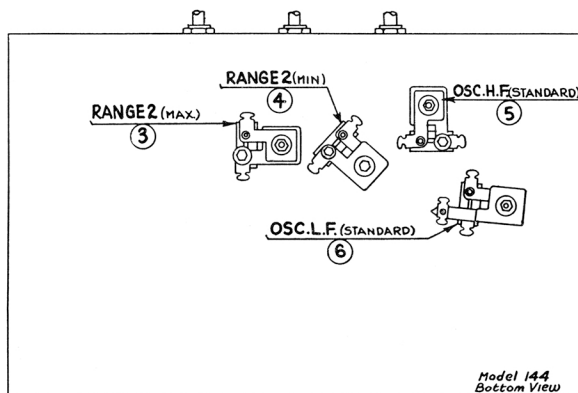

Fig. 26
Turn the Wave-Band Switch to Range 2, and adjust the Station Selector to 3.6 M.C. The "Antenna" connection between the Signal Generator and the receiver chassis must be removed for this adjustment, otherwise the output of the Signal Generator will be too great. Adjust the compensating condenser ③ to give maximum response in the output meter. This compensating condenser is located underneath the chassis and is not accessible from above. See Figure 26.
Set the Signal Generator at 1500 K.C. Make sure the "Antenna" connection between the Signal Generator and the Chassis has been restored. Adjust compensating condenser ④ located underneath the chassis, (Figure 26). Adjustment is made from the underside of the chassis.
Turn the Wave-Band Switch to Range 1 and the Station Selector to 1400 K.C. Set the Signal Generator at 1400 K.C. Adjust compensating condenser ⑤, which is located underneath the chassis. (See Figure 26). This adjustment is made from the underside of the chassis.
Finally, with Wave-Band Switch at Range 1, and Station Selector at 520 K.C., set the Signal Generator at 520 K.C. and adjust compensating condenser ⑥ (Figure 26). This compensating condenser is also mounted underneath the chassis, and reached from below.